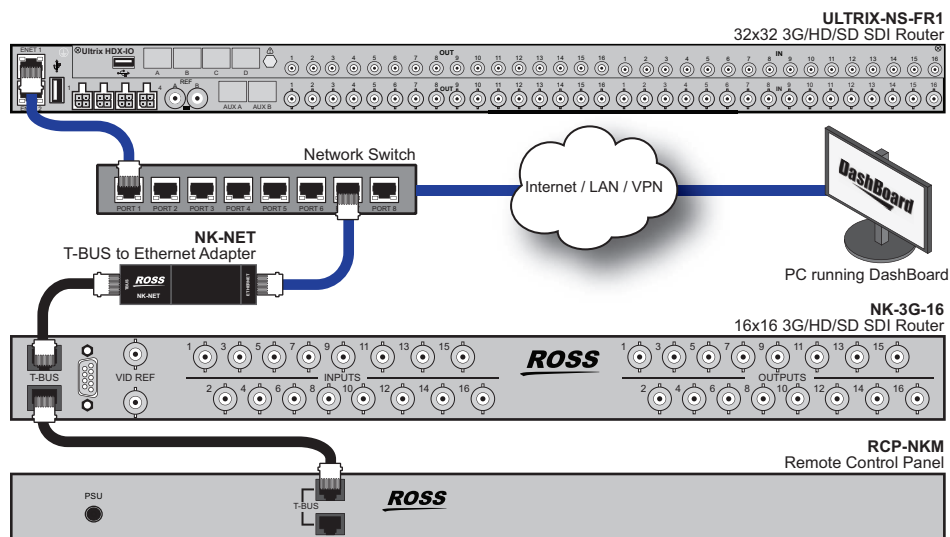

Figure 44 Connection Example with an NK-NET
- Connect the NK device to the same Ethernet network as your Ultrix router using an NK-NET or an NK-IPS, and then set up communications via the Ultracore interface in DashBoard. (Figure 44)
Figure 44 provides an example of a system with an Ultrix and several Ross NK devices over T-Bus.